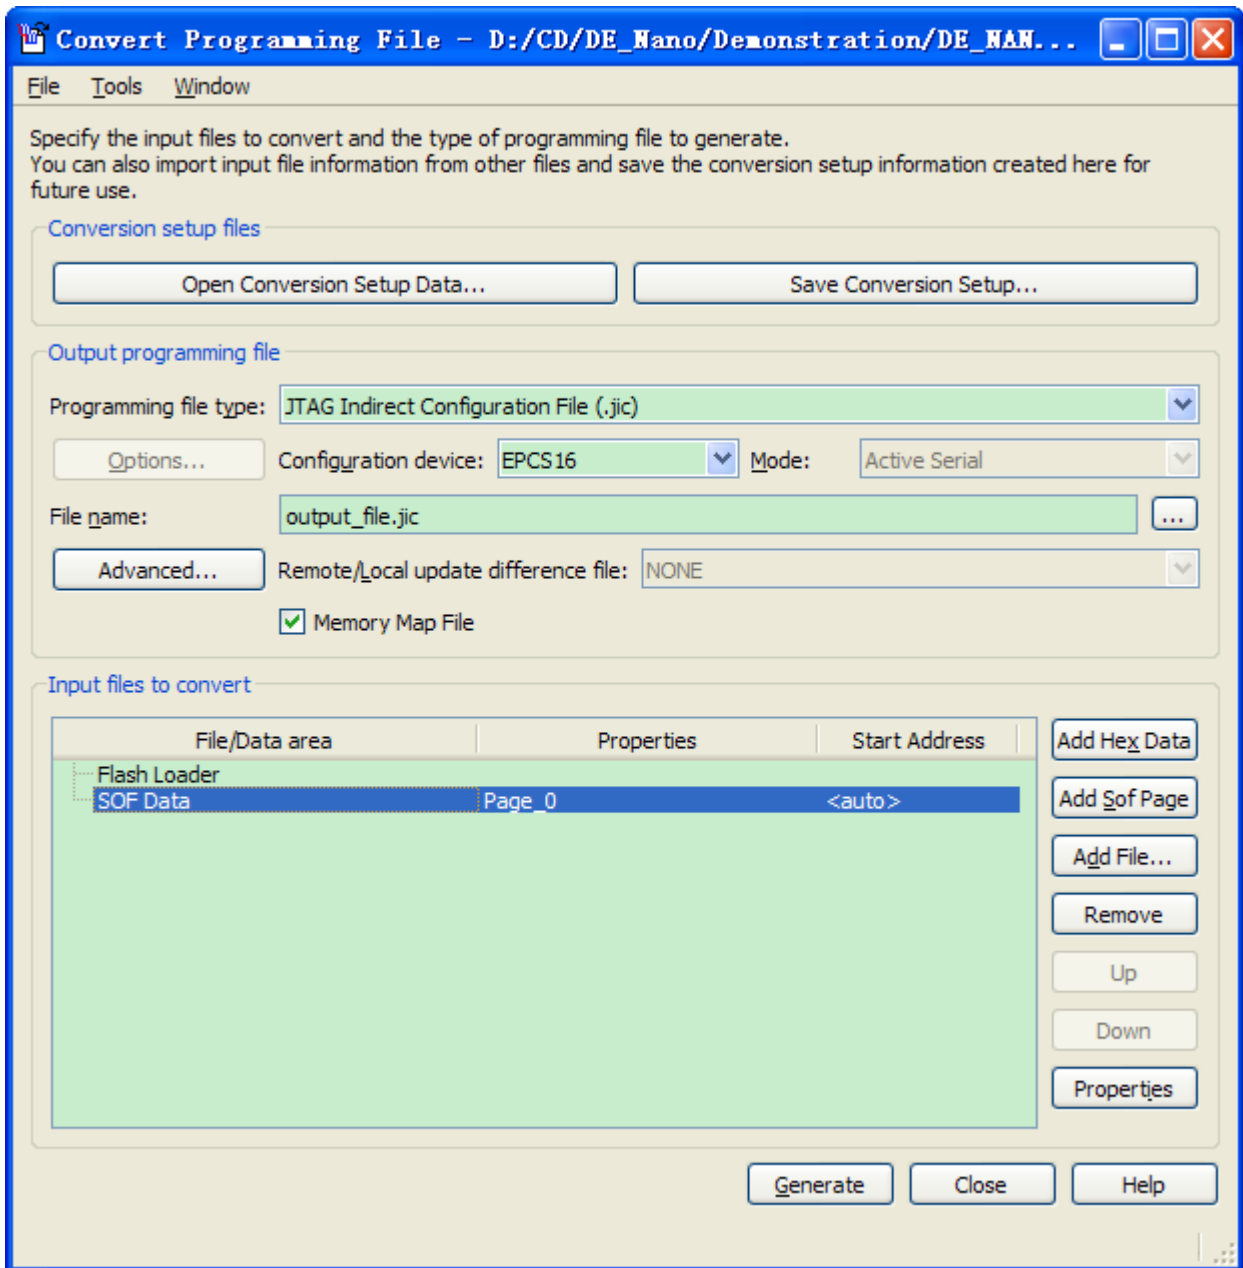

Figure A1 Convert Programming Files Dialog Box
5. Highlight the SOF data in the Input files to convert section. See Figure A1.